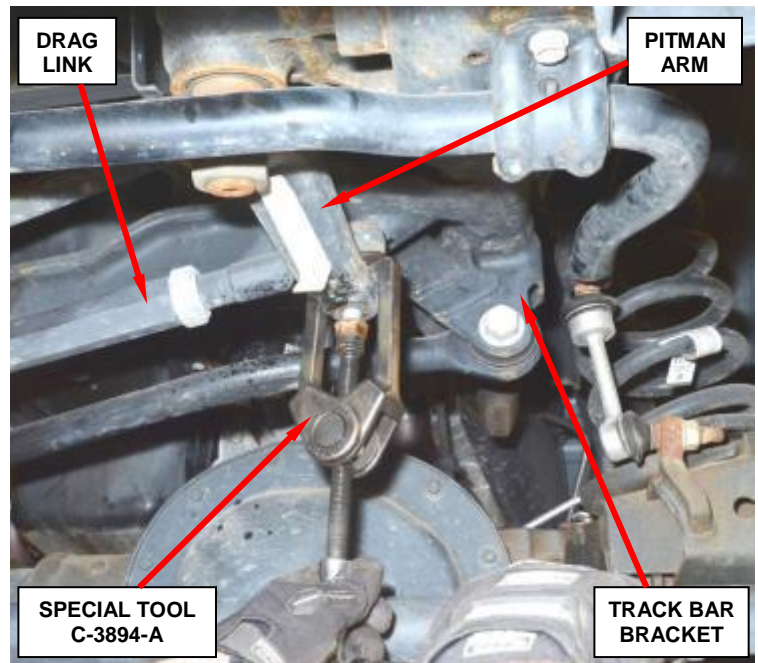

Figure 32 – Disconnect Drag Link from Pitman Arm
9. Using special tool C-3894-A, disconnect the drag link from the pitman arm (Figure 32).